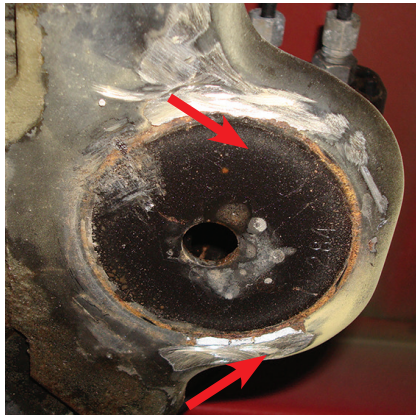
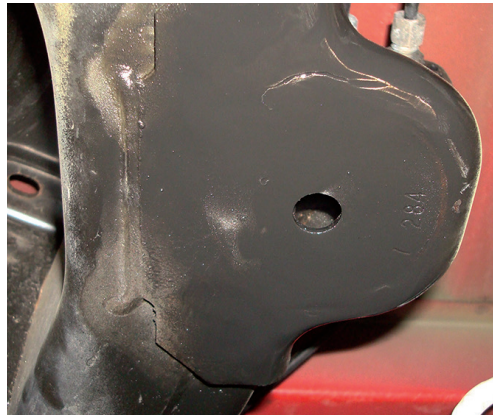

Fig. 6
Fig. 7
6. Grind the remaining welds flush to the frame (Fig. 6). Spray the frame with paint or undercoating to cover the bare surface after grinding (Fig. 7).